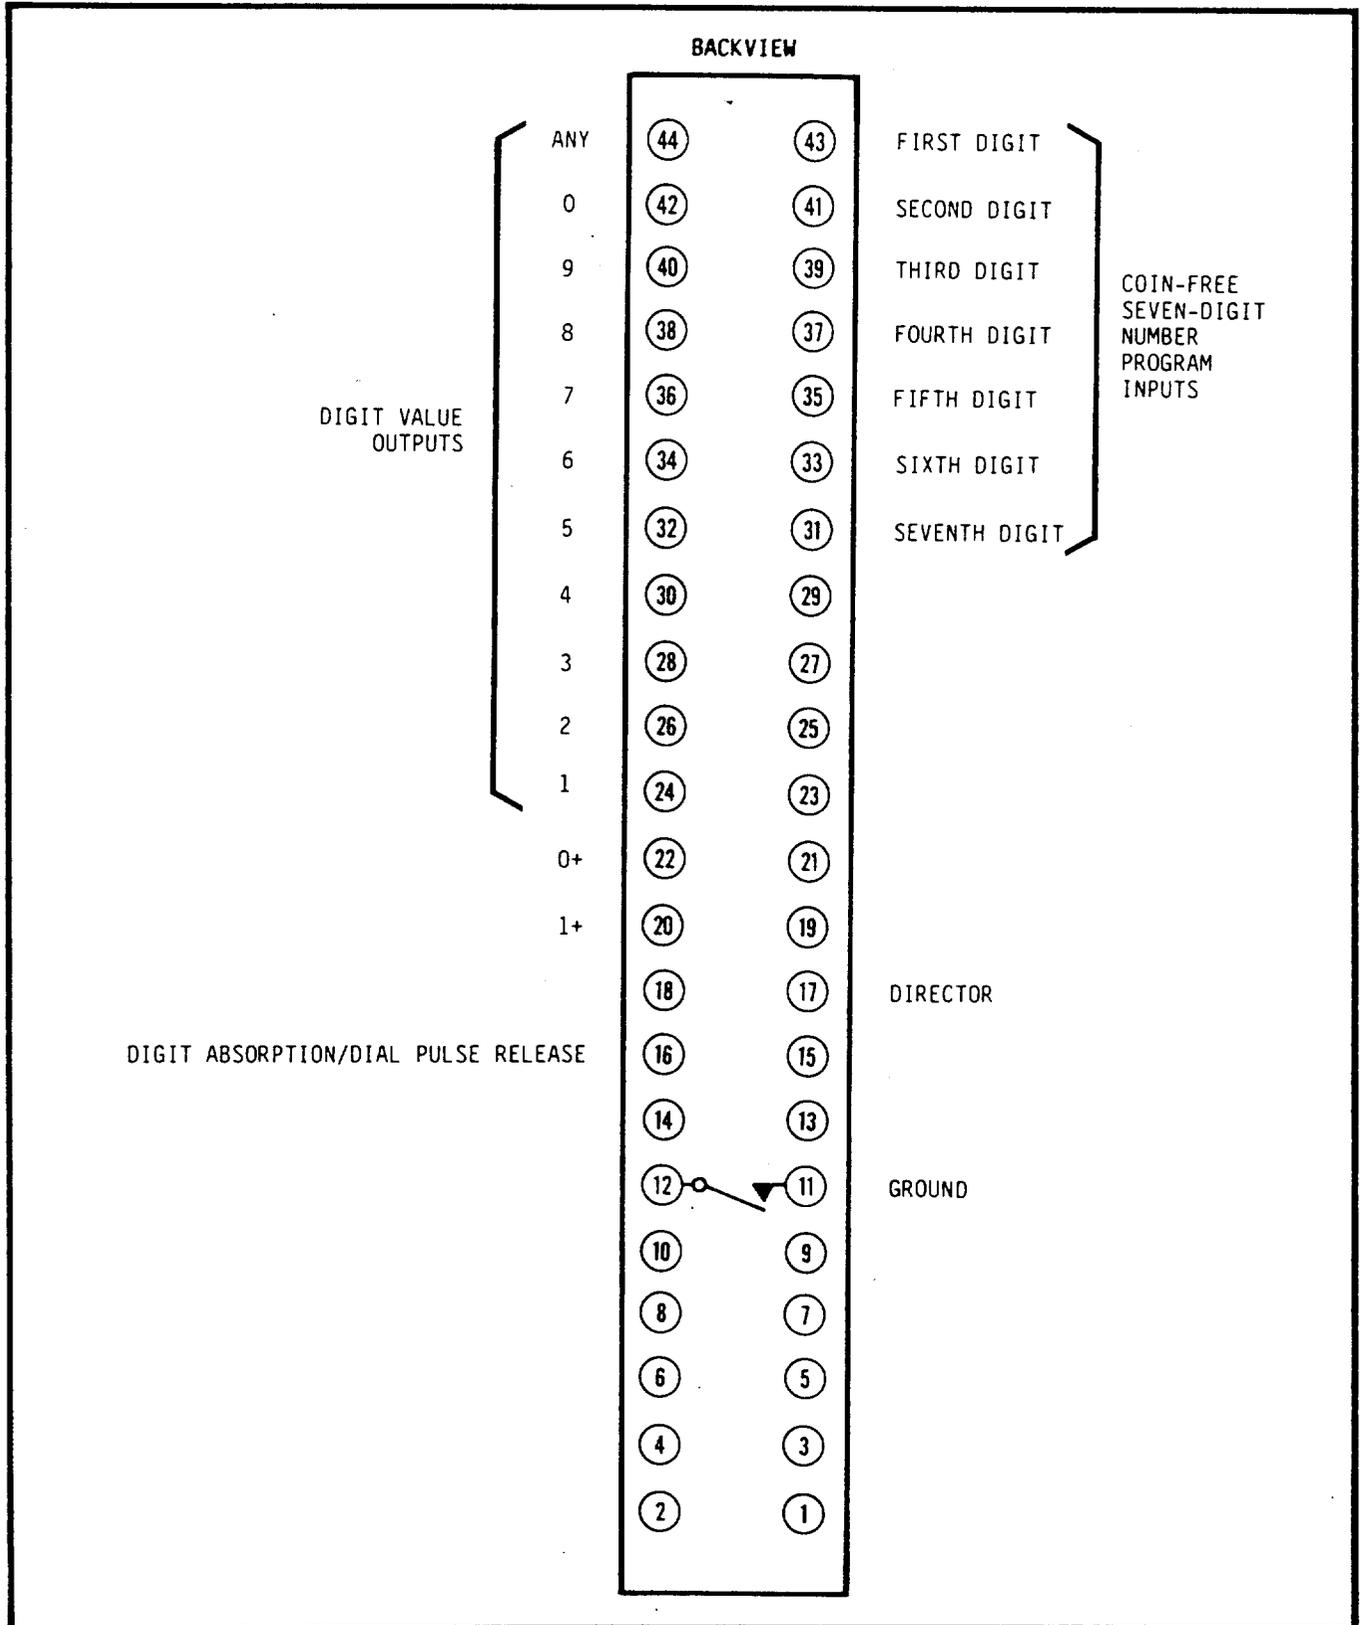

Figure 9 Program Connector Pins
5.01 The M-911 provides coin-free access to the operator and allows any three-digit code to be signaled coin-free without optional programming. Additional programs are selected by wire wrapping straps between the connector pins at each M-911. This connector strapping permits changing circuit cards without reprogramming. See Figure 9.